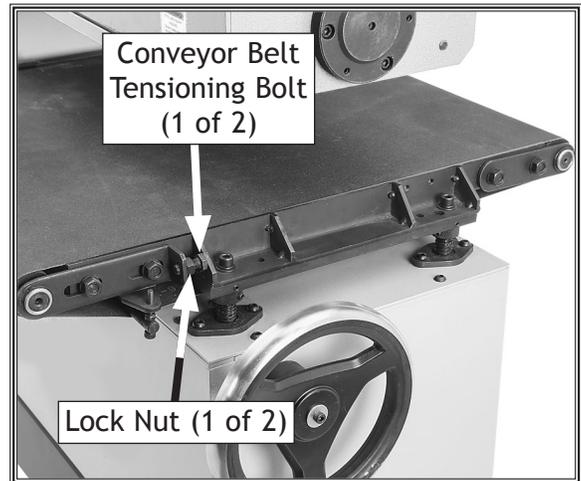

Figure 34. Conveyor coarse tracking controls.
- If the belt tracks toward the *right*, loosen lock nut shown in **Figure 34** and rotate the right-side conveyor belt tensioning bolt *counterclockwise* to move belt left.
- If the belt tracks toward the *left*, loosen lock nut shown in **Figure 34** and rotate the right-side conveyor belt tensioning bolt *clockwise* to move belt right.